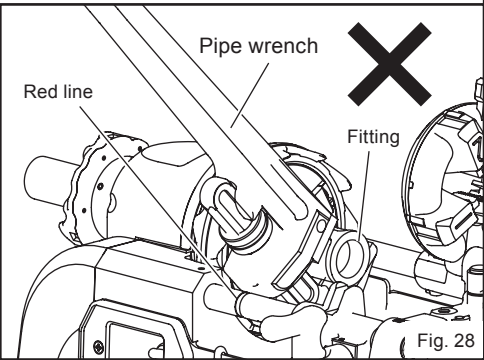

Fig. 28
Start the thread cutting process with the carriage to the right of the red line on the front support bar. (Fig. 28)
14. Improper use of a pipe wrench (Fig. 28)
As shown in Fig. 28, a pipe is positioned in the machine and a wrench is being used to tighten the fitting: never do this as there is high risk of damaging the machine.